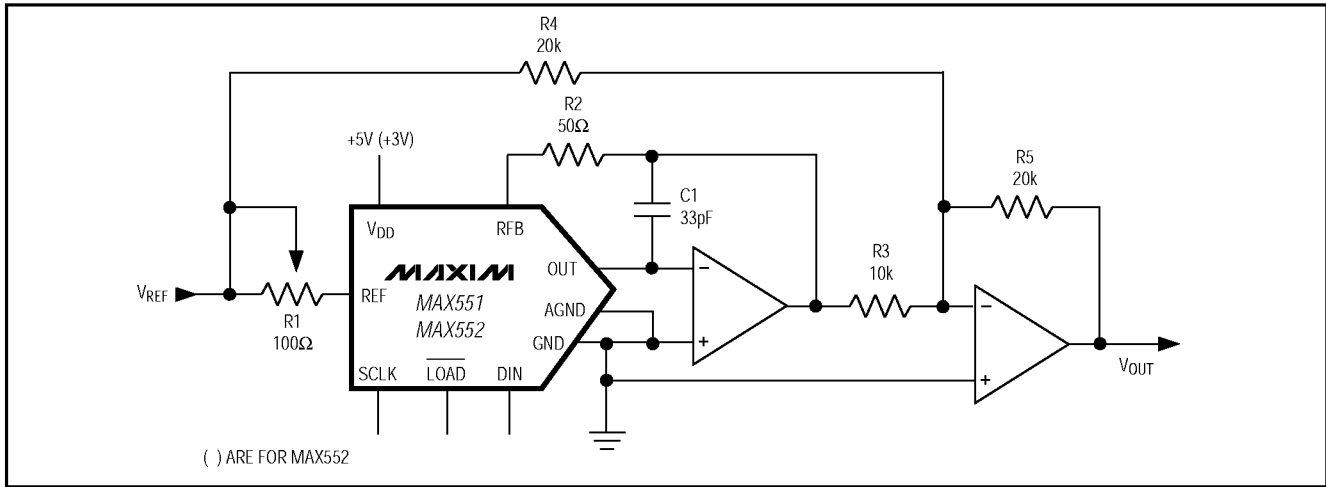

Figure 4. Bipolar Operation
**Table 2. Offset Binary-Code Table for Circuit of Figure 4**
Figure 4 shows the MAX551/MAX552 operating in bipolar (or 4-quadrant multiplying) mode. Matched resistors R3, R4, and R5 must be of the same material (preferably metal film or wire-wound) for good temperature-tracking characteristics ( $<15\text{ppm}/^\circ\text{C}$ ) and should match to 0.01% for 12-bit performance. The output code is offset binary, as listed in Table 2.